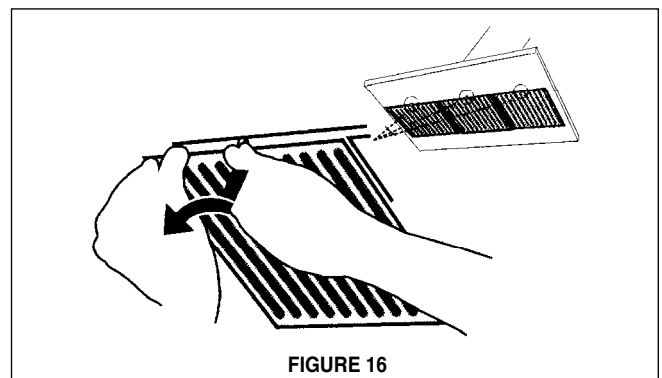

FIGURE 16
6. Install the grease filters using two hands by first pulling and turning the knob to the left so that the locking lever does not protrude from the filter (as in FIGURE 16). Insert the opposite end of the filter into the retaining channel. Insert the knob end next, then turn knob to the right to lock the filter into place.